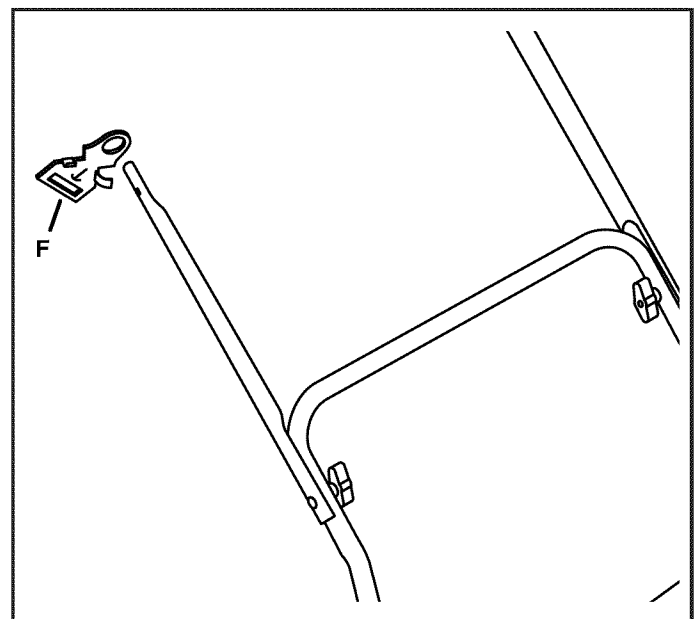

FIGURE 4
STEP 4: (SEE FIGURE 4)
- Slide the power cord holder (F) onto the right middle handle tube.